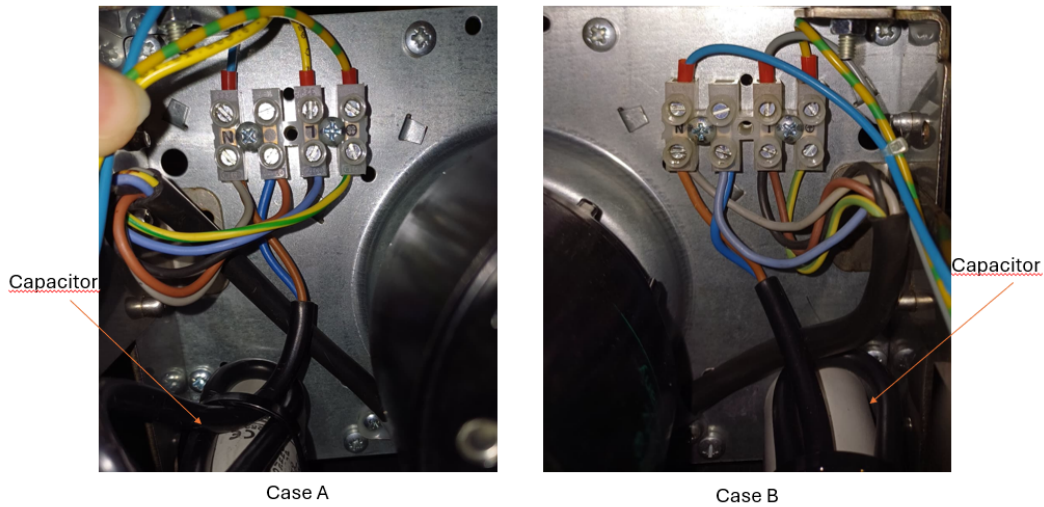

Figure 25: Terminal block connections for Case A and Case B. Ensure that all motor and capacitor wires are connected according to the indicated configuration.
3. Connect the Wieland male connector to the terminal block as shown in the Figure 25.